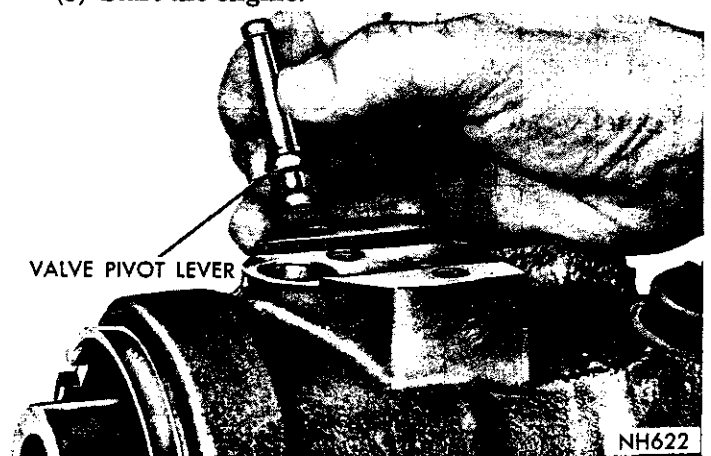

Fig. 25—Installing Valve Pivot Lever
(54) Install housing head tang washer to index with groove in housing. Install spanner nut and tighten to 110 to 200 foot-pounds with Tool C-3989.
(55) Set the power piston at the center of travel and install gear shaft and cover assembly so that sector teeth index with piston rack teeth. Make sure cover "O" ring is properly installed on shelf in housing.
(56) Install cover spanner nut and tighten 110 to 200 foot-pounds with Tool C-3988.
(57) Install valve pivot lever (double bearing end first) (Fig. 25) into center race and spacer through